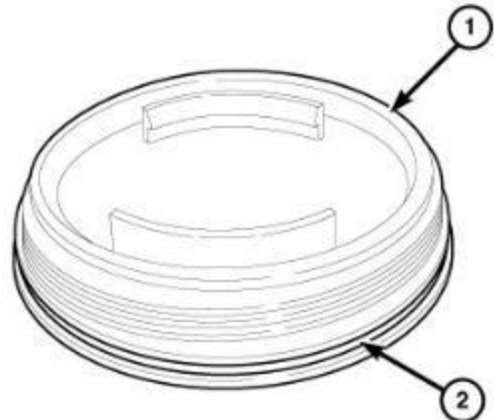

Figure 76 - Filter Cover O-ring
103. Lubricate the **NEW** O-ring seal (2) on filter covers (1) with clean diesel (Figure 76).